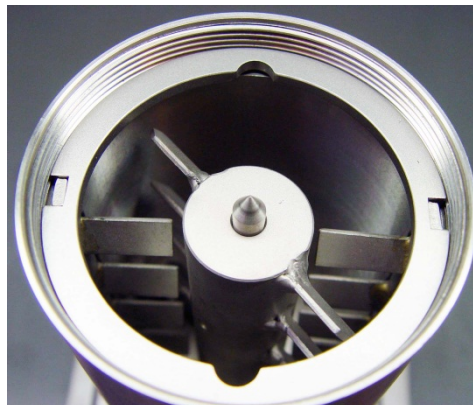

Figure 3-12 Bottom Retainer Holding Side Blades in Place
10. Insert the bottom retainer to hold the side blades in place (Figure 3-12).